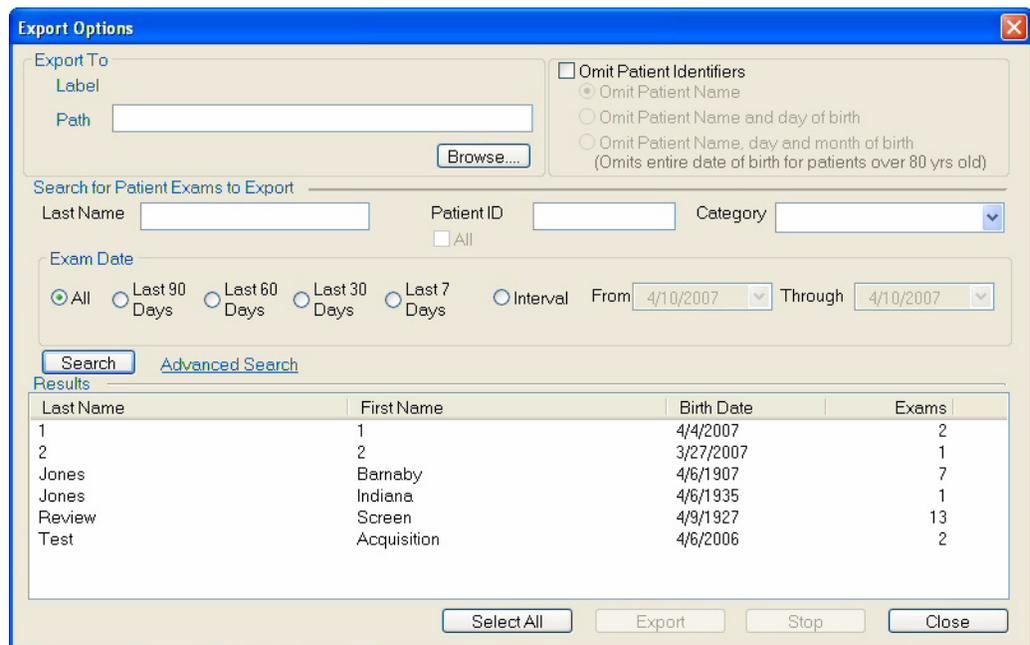

Figure 8-1 The Export Options dialog
4. Search for patients whose exams you wish to export in the middle area of the Export Options dialog (Figure 8-1, page 8-4) labeled **Search for Patient Exams to Export**. You can search for patients by **Last Name**, **Patient ID**, **Category** or **Exam Date** range. Select the desired options and click **Search**. The **Results** lists shows the patients matching all search criteria used.